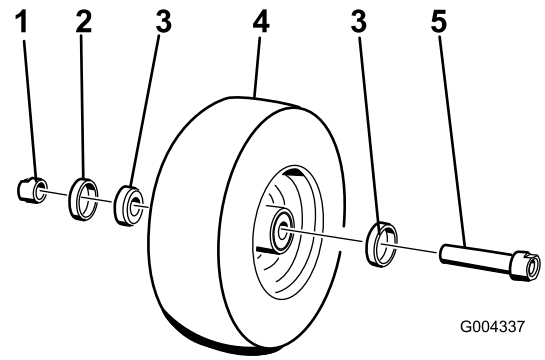

Figure 30
6. Remove **one** of the spacer nuts (with wrench flats) from the axle (Figure 30).
7. Remove the axle **without** removing the opposite spacer nut (Figure 30).
10. Insert the bearing and a new seal into the wheel (Figure 30).
12. Install the assembled nut and axle into the wheel on the side with the bearing and a new seal (Figure 30).
14. Install the second bearing and a new seal into the wheel (Figure 30).